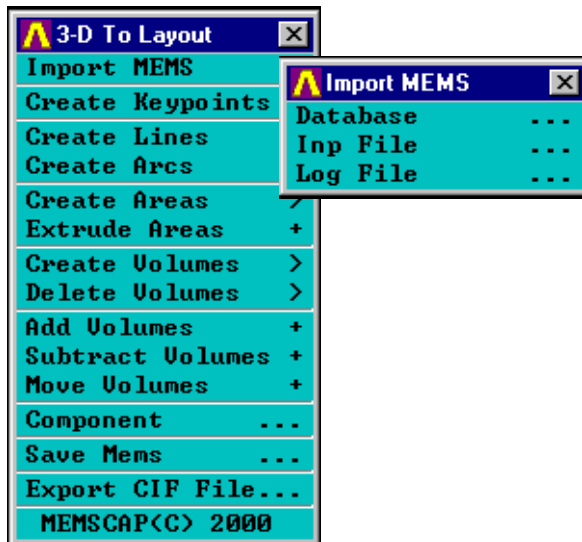

Figure 5: Reading the 3D Solid model
- ☒ You can import a 3D model by clicking **Import MEMS** (Figure 5).